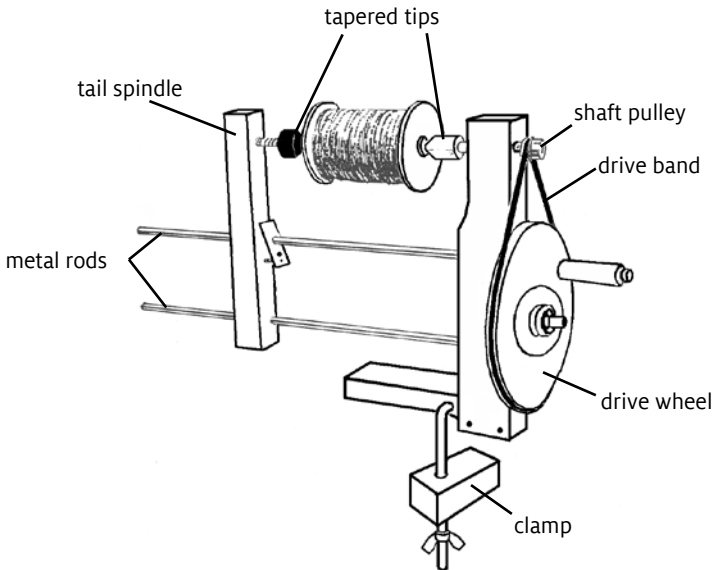

Figure 3
2. Place the tail spindle on the two metal rods by pressing the spring clamp toward the tail spindle and sliding the spindle onto the metal rods. The tapered tips on the bobbin winder should face each other (figure 3).